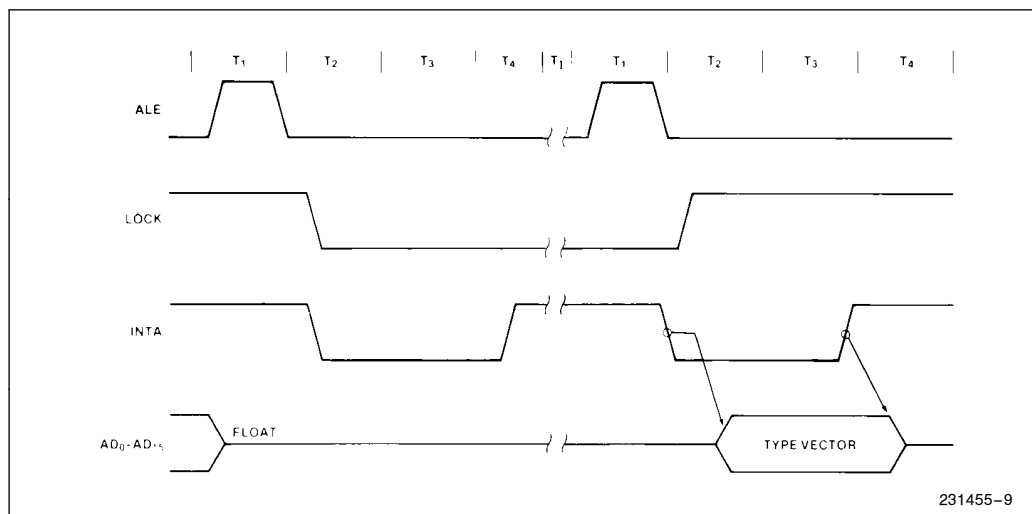

Figure 6. Interrupt Acknowledge Sequence
During the response sequence (Figure 6) the processor executes two successive (back-to-back) interrupt acknowledge cycles. The 8086 emits the LOCK signal from  $T_2$  of the first bus cycle until  $T_2$  of the second. A local bus "hold" request will not be honored until the end of the second bus cycle. In the second bus cycle a byte is fetched from the external interrupt system (e.g., 8259A PIC) which identifies the source (type) of the interrupt. This byte is multiplied by four and used as a pointer into the interrupt vector lookup table. An INTR signal left HIGH will be continually responded to within the limitations of the enable bit and sample period. The INTERRUPT RETURN instruction includes a FLAGS pop which returns the status of the original interrupt enable bit when it restores the FLAGS.
The basic difference between the interrupt acknowledge cycle and a read cycle is that the interrupt acknowledge signal (INTA) is asserted in place of the read (RD) signal and the address bus is floated. (See Figure 6.) In the second of two successive INTA cycles, a byte of information is read from bus